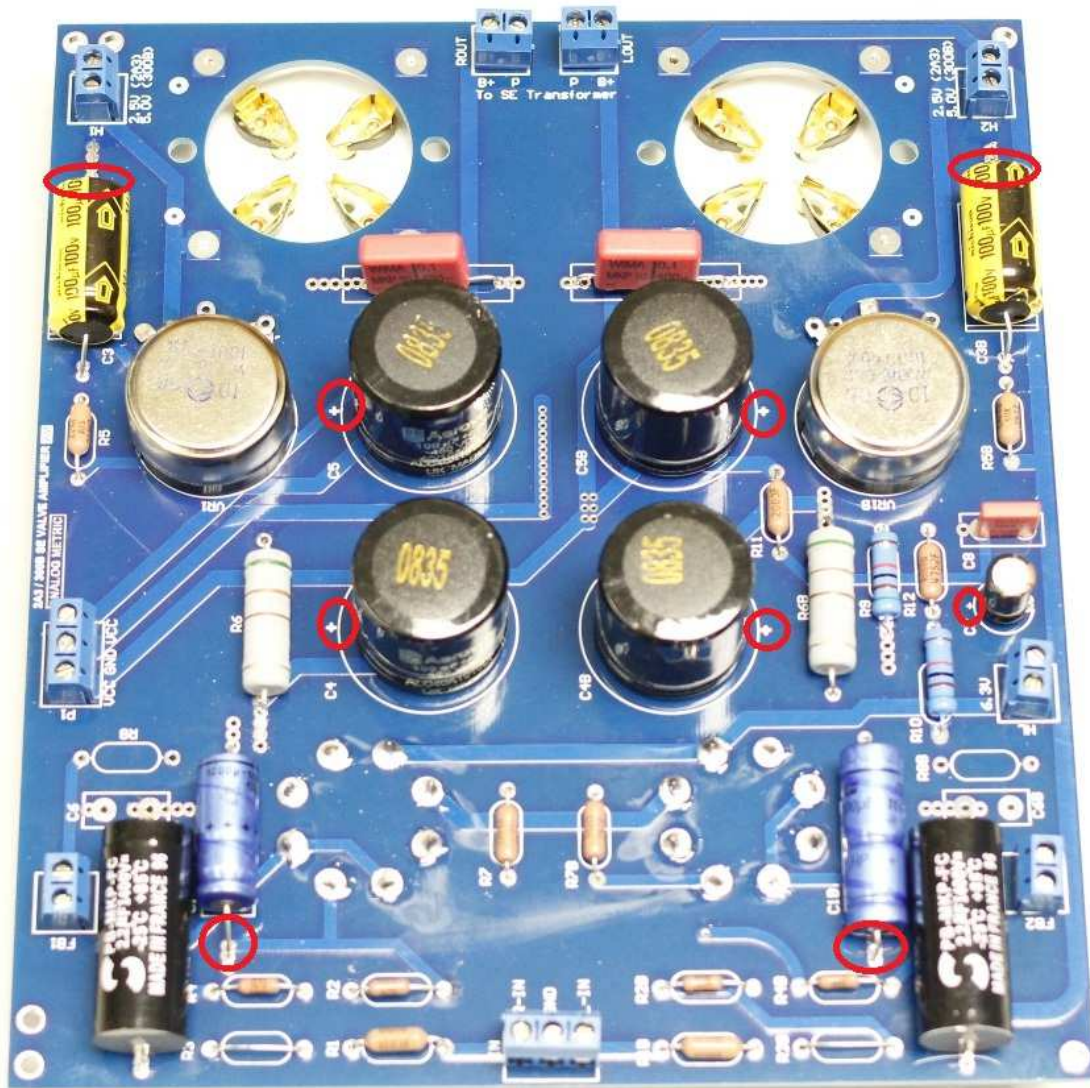

Figure 1: The positive terminal of the electrolytic capacitors are marked by red circles.
2. Notice to the direction of the electrolytic capacitors C1, C3-5, C7, and C8 (the positive terminals are marked by red circle as shown in Figure 1). There is no direction of the thin film capacitors. Double check the direction of the electrolytic capacitors, as it may cause hazardous.